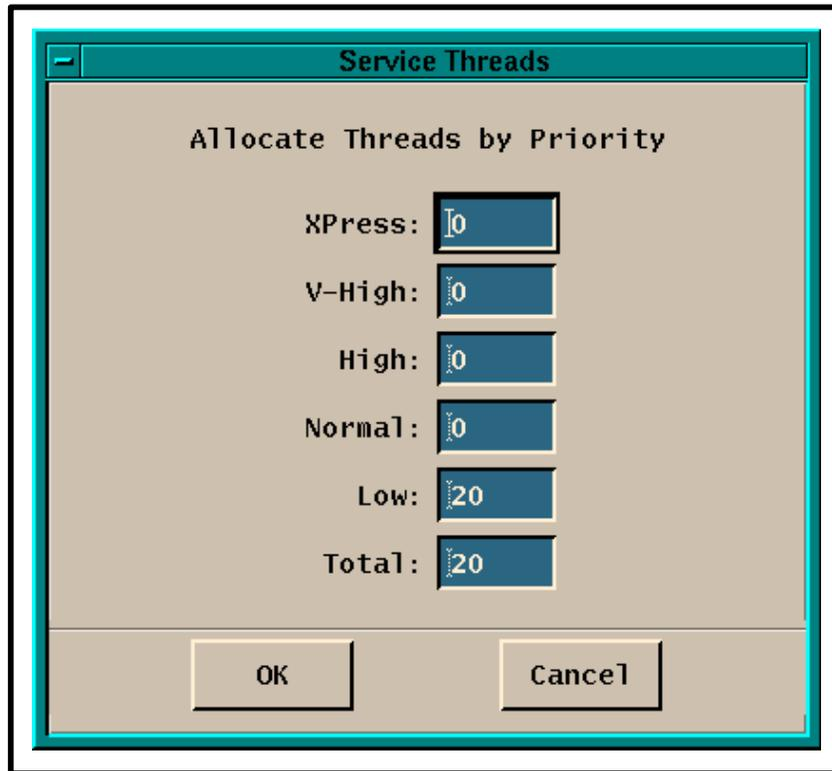

Figure 17. Service Threads: Allocate by Priority window
- The **Service Threads: Allocate by Priority** window (Figure 17) is displayed.
7 If service threads are to be allocated by priority, type the desired values in the appropriate fields in the **Service Threads: Allocate by Priority** window (Figure 17).
- The **Cache Manager Server Configuration** dialogue box (Figure 17) is displayed.
- The **Cache Manager Server Configuration Dialogue Box** (Figure 17) is displayed.